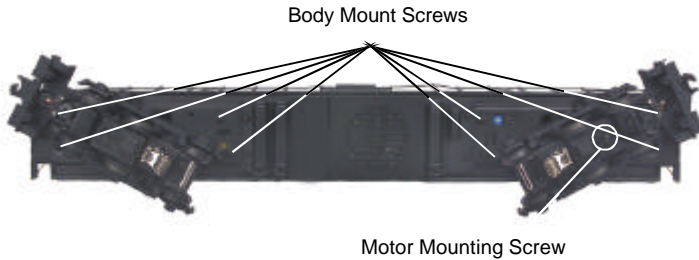

Figure 5: Body Removal Screw Locations
1. To access the gear box, remove the cab from the chassis by unscrewing the chassis screws as seen in Figure 5 and lifting the cab from the chassis.
2. Once the cab is removed, remove the trucks by unscrewing the black Phillips motor mount screw located on the underside of the drive trucks (see Fig. 5).
First, remove the trucks from the chassis by unscrewing the body mounting screws as noted in Figure 5. Next, remove the trucks from the chassis by unscrewing the truck mounting screw also noted in Figure 5. Finally, turn the removed truck over and locate and remove the truckside screws to gain access to the drive wheel traction tires behind the trucksides.
If you experience poor or no smoke output when the smoke unit is on and has fluid, check the wick to see if it has become hard, blackened, and unabsorbent around the heating element. After removing the locomotive body from its chassis (See Figure 5), remove the smoke unit inspection cover (see Fig. 11). After removing the inspection cover screws, lift the inspection plate away and inspect the wick. If it is darkly discolored and hard, it should be replaced.